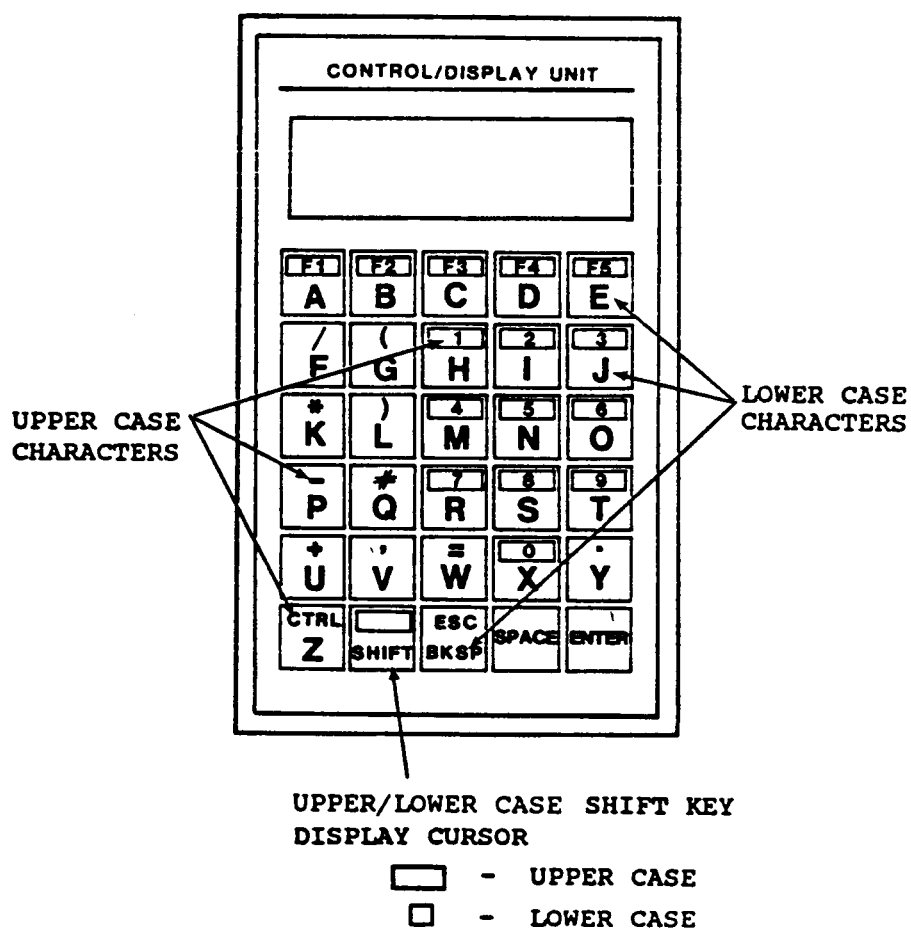

Figure 7-1: Outline of the TFX Hand Held Terminal Option (S/N EFK901) for Unidex 1
Aerotech provides three control interface options for the Unidex 1 Controller. These are the TFX Hand Held terminal, the Thumbwheel Programmer (TP) and the Thumbwheel Indexer (TI). These options are outlined in Figures 7-1, 7-2 and 7-3 respectively.
The TFX Hand Held terminal (Figure 7-1) is supplied with a cable that is designed to plug into the Communication Interface Connector, Port A, of the Unidex 1 (see Section 2-3-1). No additional interconnect wiring is required. The TFX Hand Held terminal receives its power directly from Unidex 1.
Two configurations of the TFX Hand Held terminal are currently being supplied. Functionally the two terminals are identical however slight differences exist on the keypad (see Figures 7-1 and 7-2).